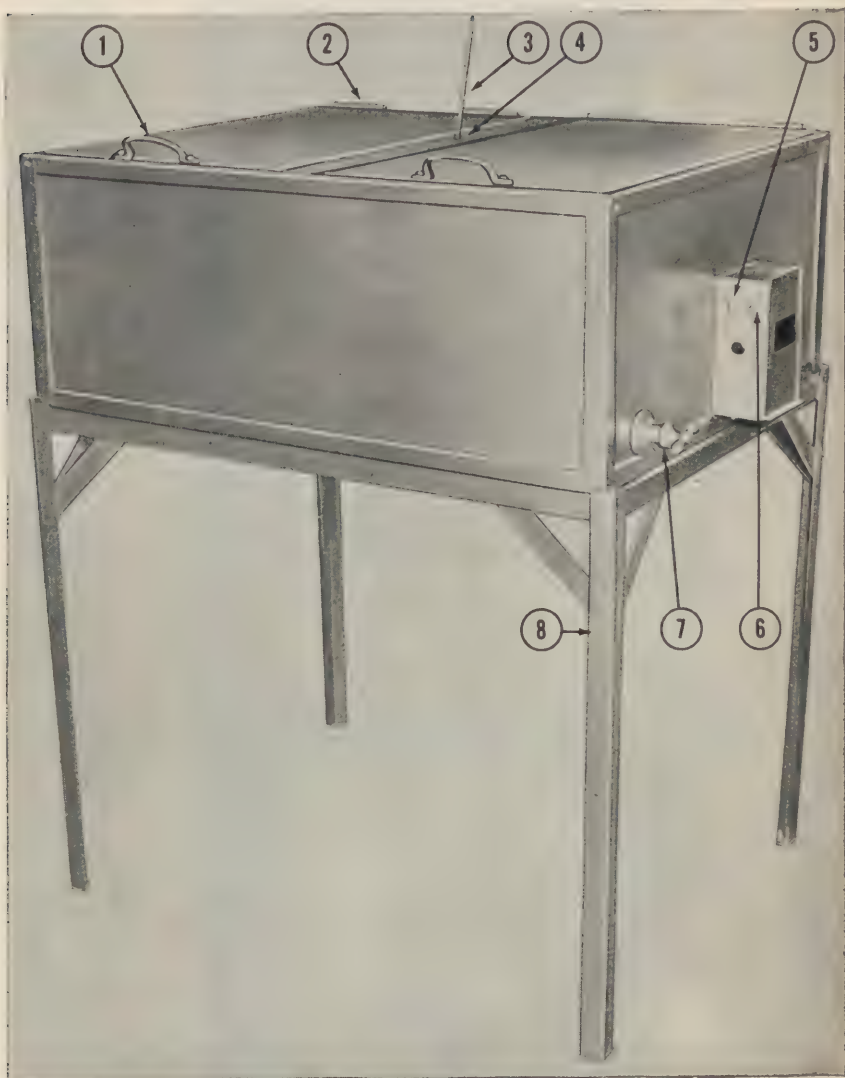

Figure 3. Item No. 4480008 water bath, serological, Wassermann, 110-volt, a-c., d-c. Gotham Scientific Co. Closed view.
(3) Insert the thermometer into the thermometer well, (4) figure 3.
(1) Control switch, (5) figure 3. This switch is used to turn the heater "ON" and "OFF."
(2) Auxiliary switch, (6) figure 3. This switch, marked "AUX," controls auxiliary heater elements used for faster initial heating.
(5) Thermometer, (3) figure 3. The thermometer, graduated from 5°-70°C, indicates the temperature of the water.